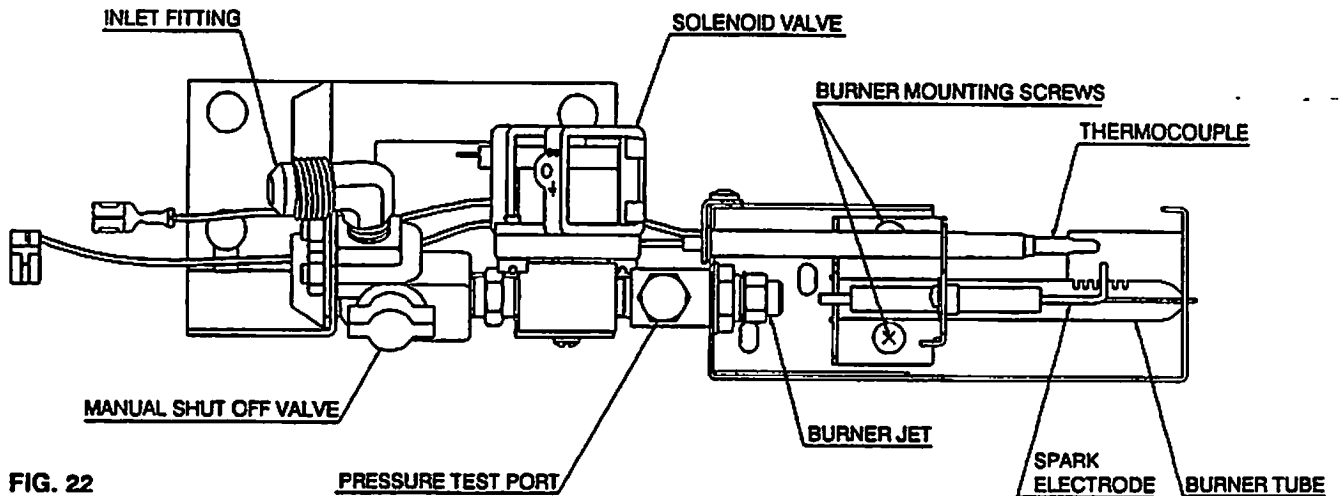

FIG. 22
- D. The LP gas pressure should be checked and the main regulator re-adjusted if pressure is incorrect. The correct operating pressure is 11 inches of water column. The correct place to take the LP gas pressure is at the test port just ahead of the burner jet. (See FIG. 22).
6. Remove the burner mounting screws and remove the burner assembly. (See FIG. 22).
Set main regulator so pressure does not drop below 11 inches water column at pressure test port (see side 16 FIG. 22).